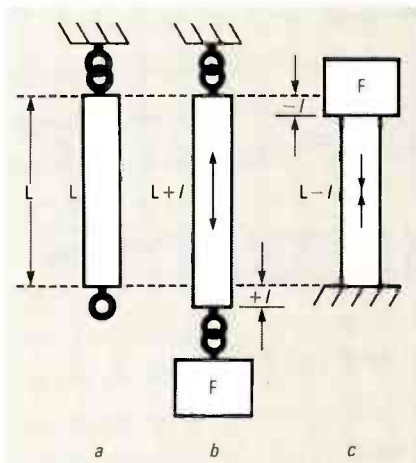
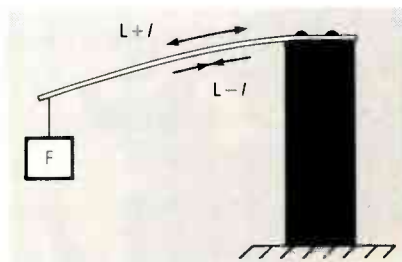

FIG. 2—IF A STEEL BAR (a) is loaded, its length will change. Depending on the placement of the load, the bar will either expand (b) or contract (c).
FIG. 3—WHEN FORCE IS APPLIED to the free end of the arm, the upper surface will expand and the bottom surface will contract.
FIG. 3—MAKING A DELTA-TIME MEASUREMENT shows that the difference between a tracking fix and a head-switch signal to be 352 μ s; factory specifications call for a 400 μ s delay.
(6) Delta time: Time measurements fall into two categories: those that are part of one signal, and those involving the time difference between two signals. An example of time within one signal would be the duty cycle of a switching power supply, where the "on-time" compared to the "off-time" determines the power delivered to the load. The time delay between two signals is important in many VCR servo adjustments. See Fig. 3. Either of those applications uses a point on the waveform as a reference for a delta-time measurement.
(7) Reciprocal time measurements: You can determine the approximate frequency of a signal by measuring the time for a single cycle and then inverting the time measurement mathematically. You can use that method to determine the time constant of circuits responsible for ring-
As an example, Fig. 2 shows a steel bar subjected to a force in the form of a weight. In Fig. 2-a the bar is unloaded and has a length of L . In Fig. 2-b, the bar is anchored at the top, and the weight is attached to the bottom. In that case, the resulting deformation will appear as an increase in length. In Fig. 2-c, the weight is placed on top of the bar. That will result in a decrease in length. Note that no matter how the bar is loaded, it will return to its original length when the weight is removed, provided that the applied force was not so large as to cause the bar to permanently stretch or break. The change in length resulting from an applied force is known as strain. For metallic solids like steel or aluminum, the maximum allowable strain before deformation is in the range of a few thousandths of an inch.
The spring element is the foundation of the strain-gage transducer. It is an elastic solid (usually metallic) designed to linearly translate an applied force into an equivalent strain. Its size and shape depend on the magnitude and type of force that the transducer is to sense. A spring element could be as simple as the steel bar in Fig. 2, but a design of that type provides only one direction of strain in response to an applied force. If the applied force can produce two equal strains that are opposite in direction, the resulting transducer will be more accurate. That is often done by applying a force to the spring element in a way that will make it bend.
Figure 3 shows one way that can be done. A rectangular steel bar is anchored at one end in a cantilever configuration. The force is applied to the free end of the bar, perpendicular to the axis, rather than along the axis as in Fig. 2. As a result, the upper surface of the bar will stretch, and the bottom surface will compress. The surface strain will vary along the bar, from a maximum near the end that is anchored, to zero at the other end. But at any given position along the bar, the strain of the
The purpose of the strain gage is to convert the strain of the spring element into an equivalent change in resistance. A strain gage is just a metallic conductor that is bonded to the spring element, stretching and compressing in the same way as the spring element. We know from basic electricity that the resistance of a conductor depends on its length. And, we know that if we place it in tension its length will increase as the steel bar did in Fig. 2. Since resistance is proportional to length, that stretching will result in an increase in resistance. If we turn that around and put the conductor into compression, its resistance will decrease.